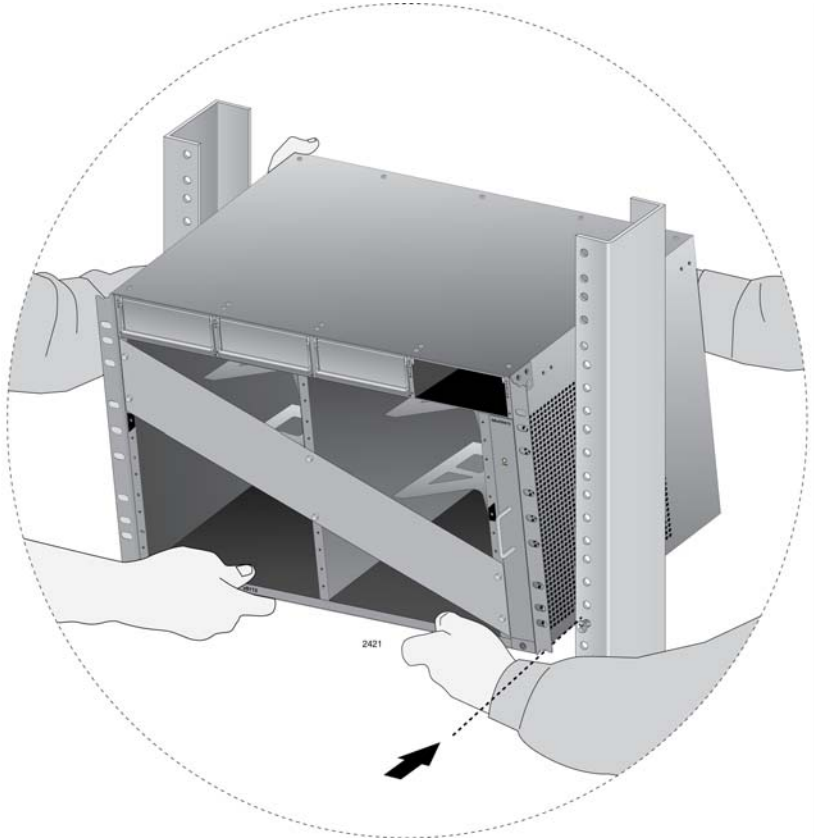

Figure 35. Lifting the AT-SBx8112 Chassis into the Equipment Rack
2. Do not mount any other equipment within 152.4 mm (6") above this space during installation. This additional vertical space is temporary and allows you enough room to lift and tilt the chassis into its position in the equipment rack without hitting other equipment, as shown in Figure 35 on page 81. You may use this additional space for other network equipment after the chassis is installed.
1. While facing the front of the chassis, tilt the top of the chassis toward you, as shown in Figure 35 on page 81.